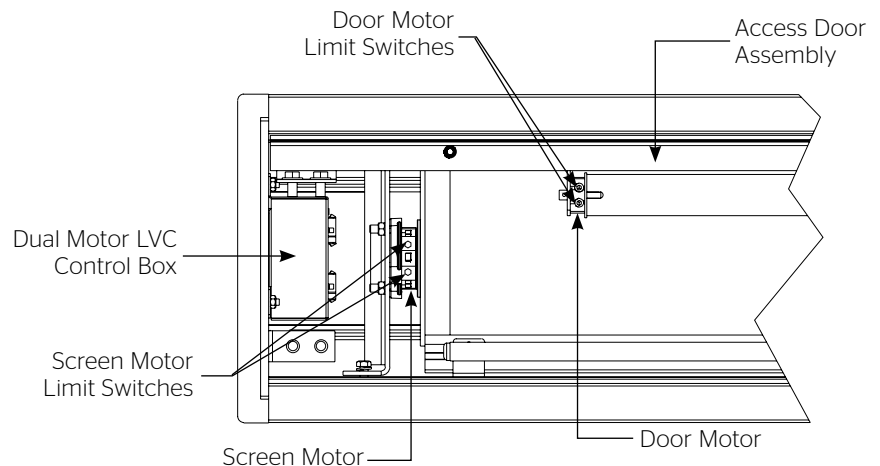

Figure 3
9. Carefully remove tape strips securing picture surface around roller. Slat should move freely (Fig. 3). (Only if the roller assembly is pre installed.)
2. When the screen stops, turn the white **"down"** limit knob (Fig. 3) one-quarter turn counterclockwise. Test by raising picture surface approximately two feet, then lower again. Repeat until desired picture surface position is attained.